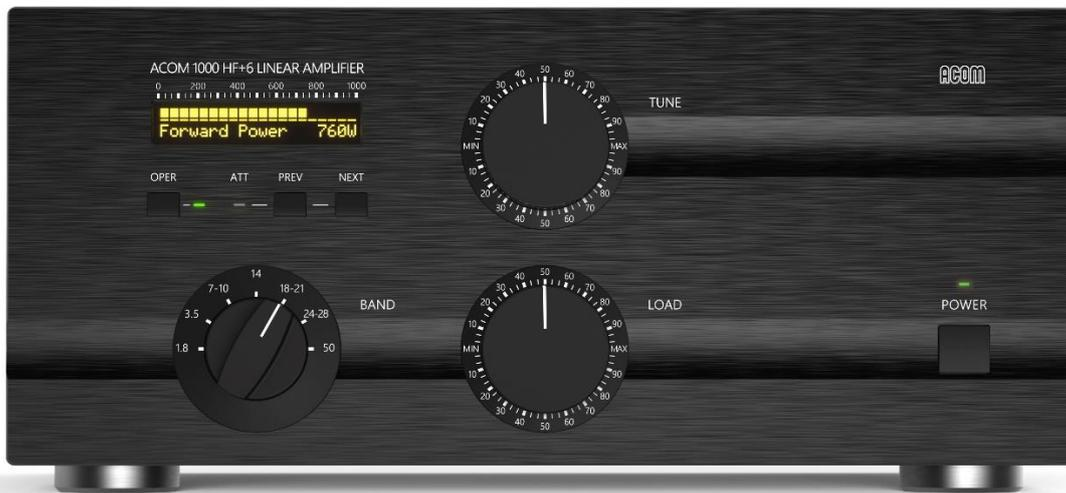

Figure 3-1 Front panel - Display and Controls
After following all instructions in Section 2 INSTALLATION, you may turn on the main power switch (marked "LINE") on the rear panel (see Figure 2-1 Rear panel - Connections, Pos. (2)). The LED indicator above the **POWER** button (located on the front panel) must light red and "ACOM 1000" will appear on the display (see Figure 3-1 Front panel - Display and Controls).
In order to turn on the amplifier, while the Main Power Switch (located on the rear panel and marked "LINE", see *Figure 2-1 Rear panel - Connections*, Pos. (2)) is in On position, press the **POWER** button (located on the front panel right-bottom corner, see *Figure 3-1 Front panel - Display and Controls*) and hold it on for about one second. The LED indicator above the **POWER** button will change the color from red to green. You will hear the blower and the optional external fan (if installed) start first at high speed, then slow down.